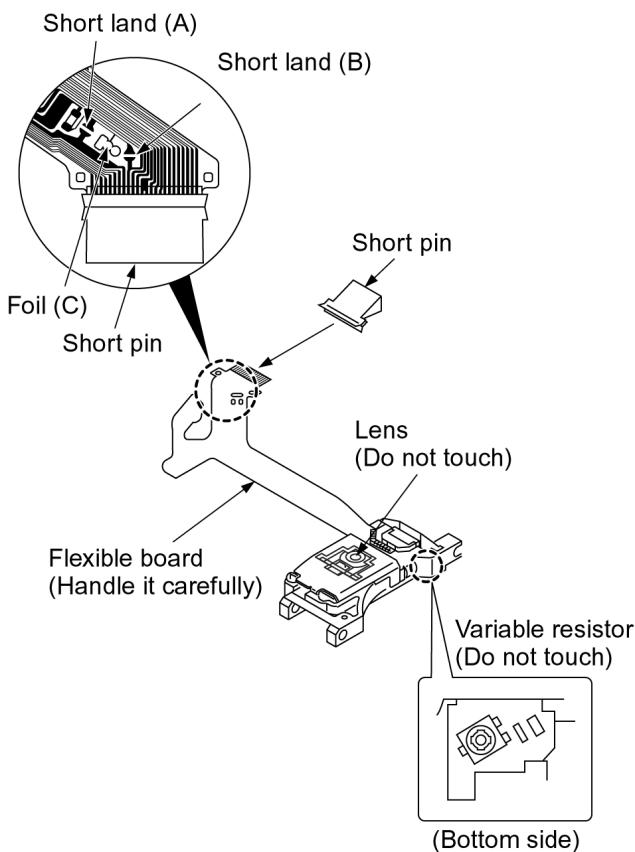

Fig. 1.
4. Do not turn the variable resistor (laser power adjustment). It has already been adjusted. (Refer to Fig.1.)
The traverse deck short-circuits the foil (B) to protect the laser diode against electrostatic breakdown. Be sure to cut the foil (B) before making connection. Take care not to make contact with cutting point each other. (Refer to Fig.1.)